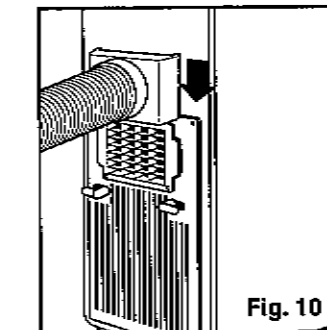

Fig. 10
- 1) Install the **Flexible Exhaust Hose** *Fig. 10* and the **Adjustable Window Kit** as depicted in *Fig. 2 & 2a* (pg. 5).